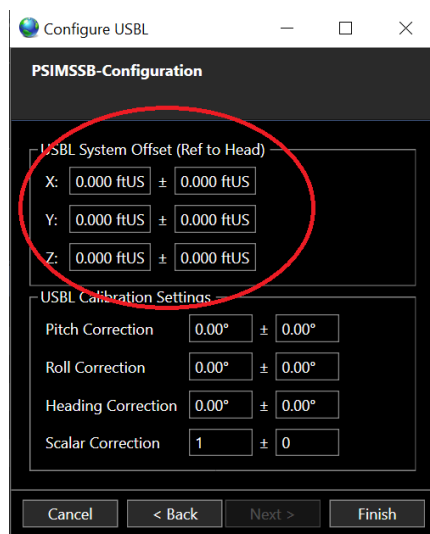

FIGURE 6-19 USBL SYSTEM OFFSETS
- a. Enter the offsets that are entered in the USBL system using the sign convention of USBL reference point to the transducer (see Figure 6-19)
- a. Enter 0.0 for the USBL System Offsets (see Figure 6-19)